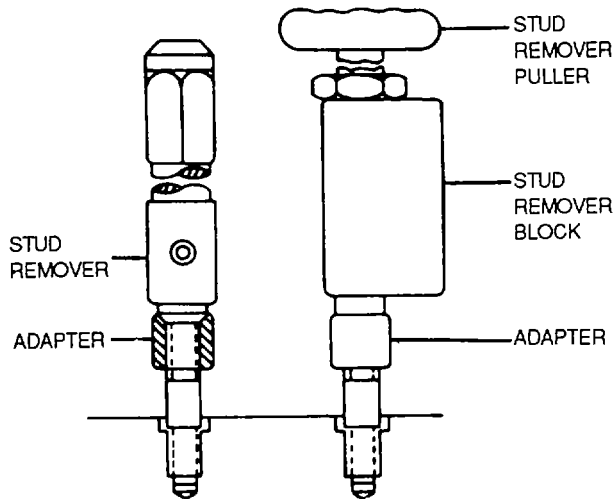

Figure 2-64. Stud Removal
- (1) Place adapter, as shown in figure 2-64, in stud remover.
- (2) Drive adapter down over threads of stud.
- (3) Remove studs by turning stud remover with a wrench. If threads in parent material pick up and stud remover cannot be turned, remove stud remover from adapter.
- (4) Place stud remover block and puller on adapter and remove adapter from stud
- (5) Cut off stud close to parent material.